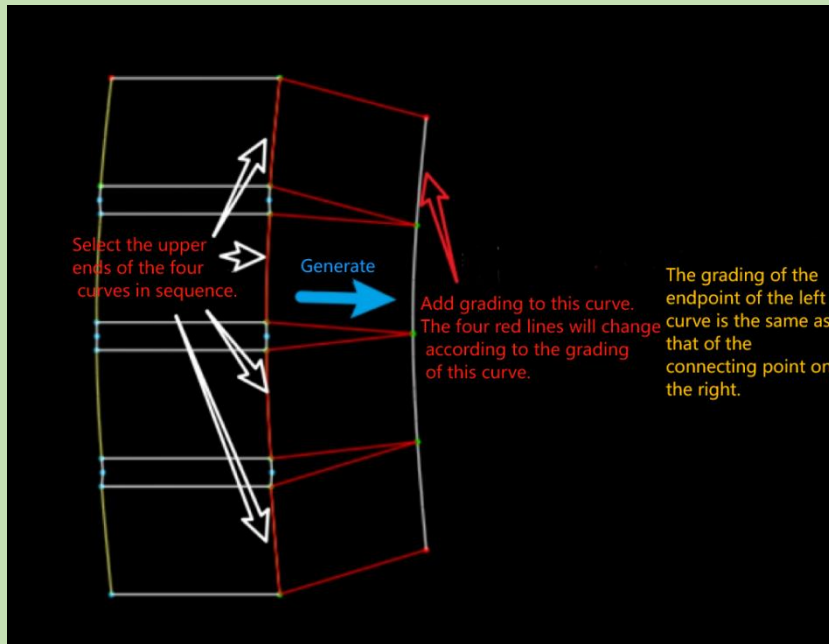

Figure4-71
11) Jion grad(offset): Stitch all the box-selected curves together in sequence to form a new curve. The originally box-selected curves (including the endpoints) will change according to the grading results of the new curve. ( Figure4-71 )